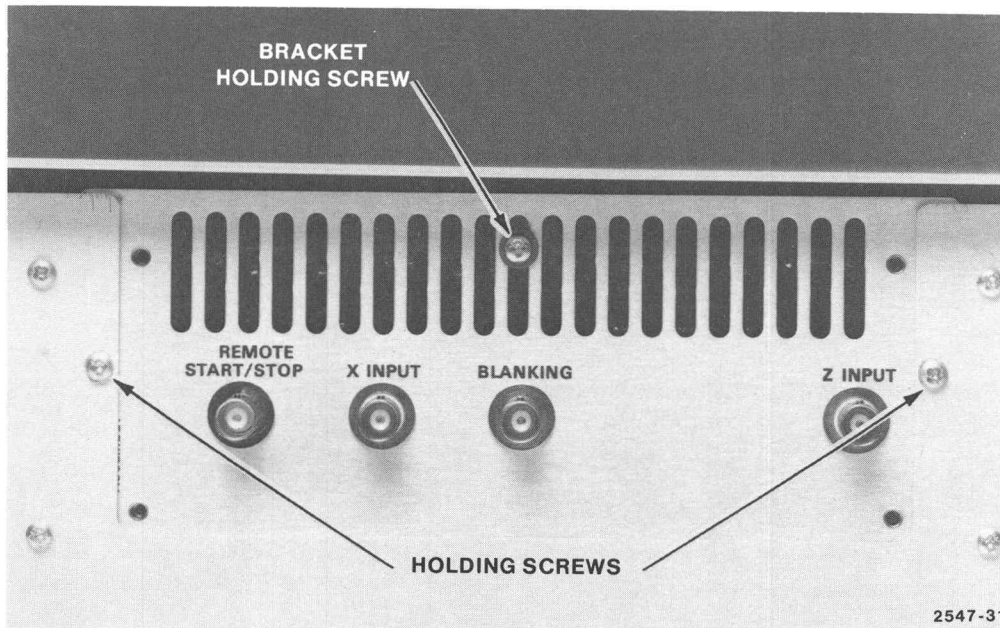
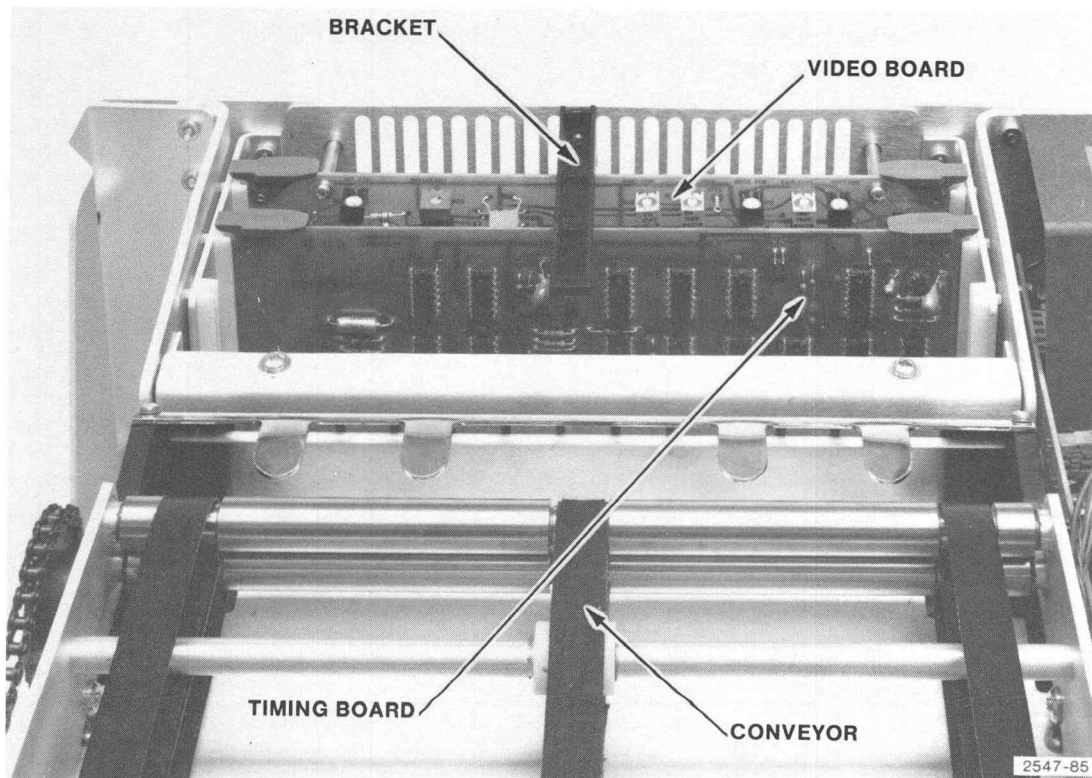

Figure 4-2. Screws Securing Video and Sweep Board Assembly.
Figure 4-3. Circuit Board Location.
2. The Video and Sweep Assembly is secured to the rear panel by two screws (Figure 4-2). Remove the screws.
3. The circuit boards are held in place by a bracket (Figure 4-3). Remove the circuit board bracket screw (Figure 4-2) and remove the bracket. Now the circuit boards are easily removed or placed on a card extender for troubleshooting or adjustment. (See Replaceable Mechanical Parts Section, under "Optional Accessories", for part numbers of extenders.)